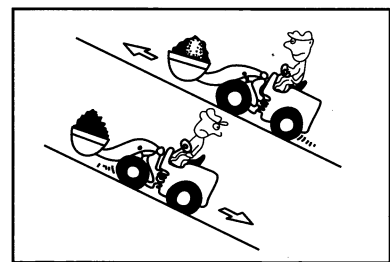

Figure1-62
- △ Keep the loader forwards when driving uphill and backwards when driving downhill. (Figure 1-62)